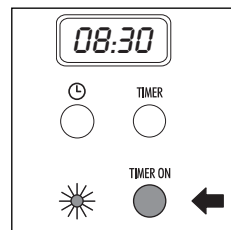

fig. 9
- 2 Press the **TIMER ON** button. The corresponding light comes on (see fig. 9).
- 4 **NOTE:** if you make coffee while the appliance is programmed to come on automatically (**TIMER ON** light on fig. 9), it is normal for the programmer to be deactivated (the **TIMER ON** light goes off).
- 5 When you have finished making the coffee, remember to reactivate the timer (press the **TIMER ON** button, the light comes on (fig. 9)).